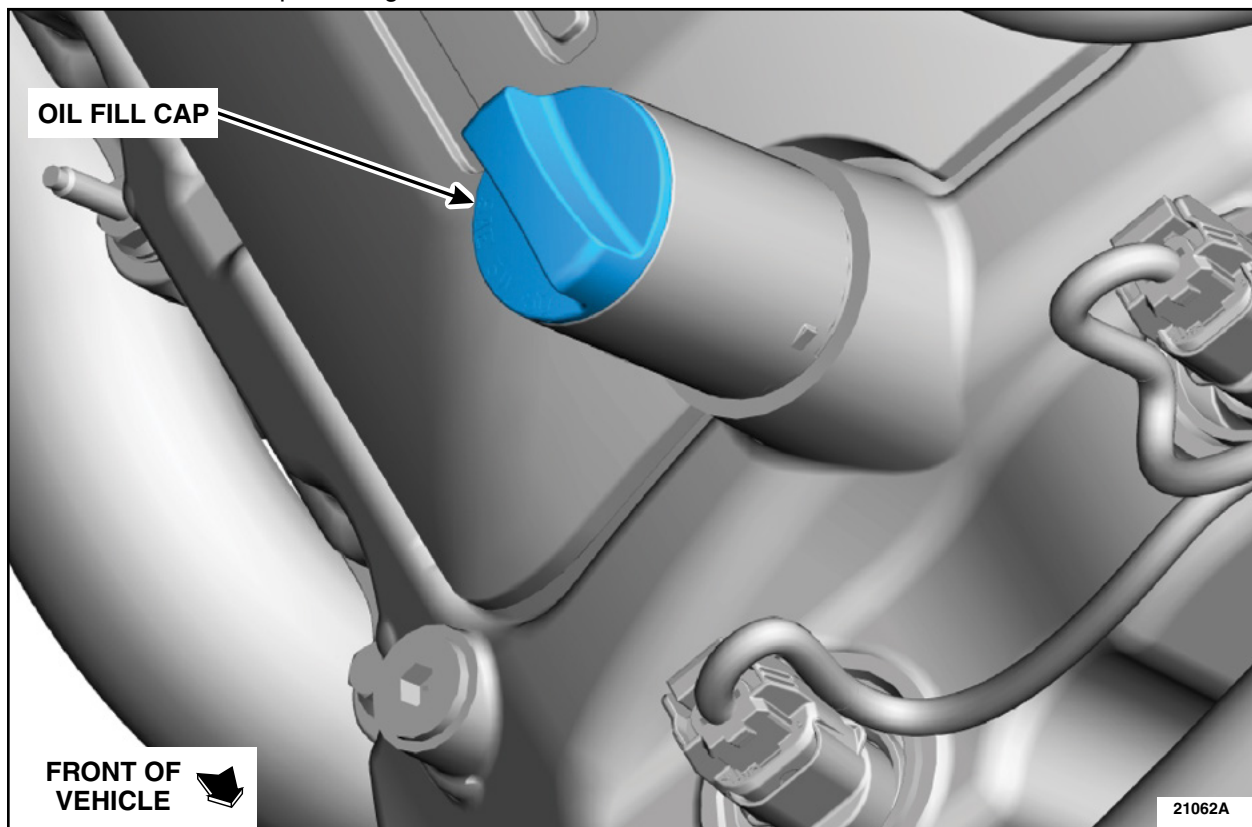

FIGURE 1
1. Remove the oil fill cap. See Figure 1.
6. Install the oil fill cap. See Figure 1. This recall does not apply to this vehicle.